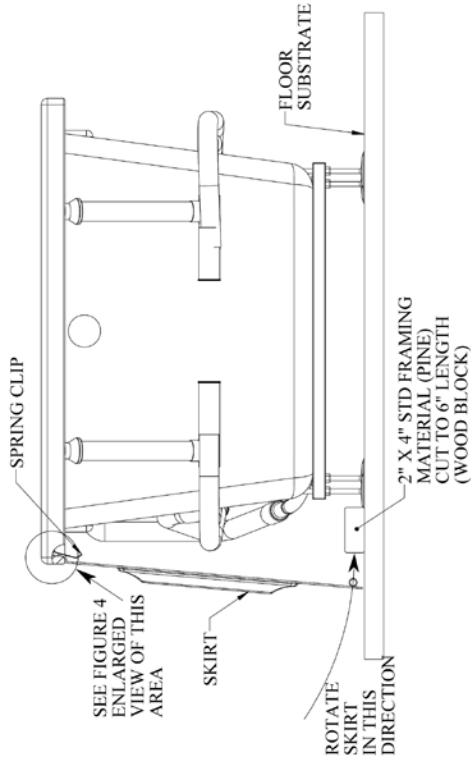

FIGURE 1
2. Locate the raised lip support channel beneath the lip of the bath tub as shown in **FIGURE 1 ON PAGE 14**. **NOTE:** Some models do not have the lip support channel running the full length of the tub. These tubs will need to have blocks of wood glued (construction cement) to the underside of the tub so that the spring clips can be attached.
3. Place the spring clips at even intervals along the support channel, use all four clips. Position the front of the clip to line up with outside of the bath lip, **(SEE FIGURE 4 ON PAGE 14)** making sure they line up properly. Mark the hole openings for the screws with a pencil. Place a #6, 1/2" screw at the marked position and secure the clips to the channel. Use 2 #6 screws for each clip as shown in **FIGURE 1**. Make sure the screws go into the support channel or into the wood blocks.